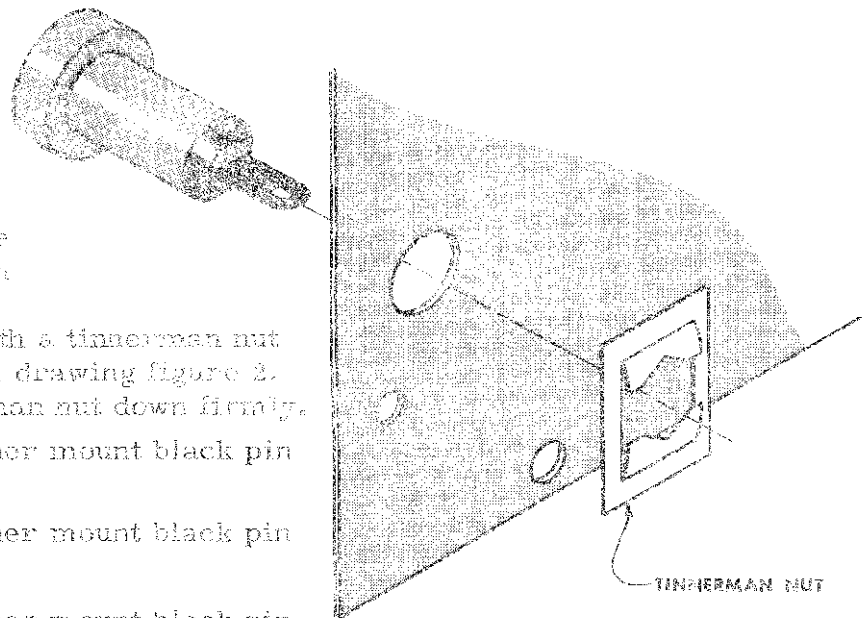
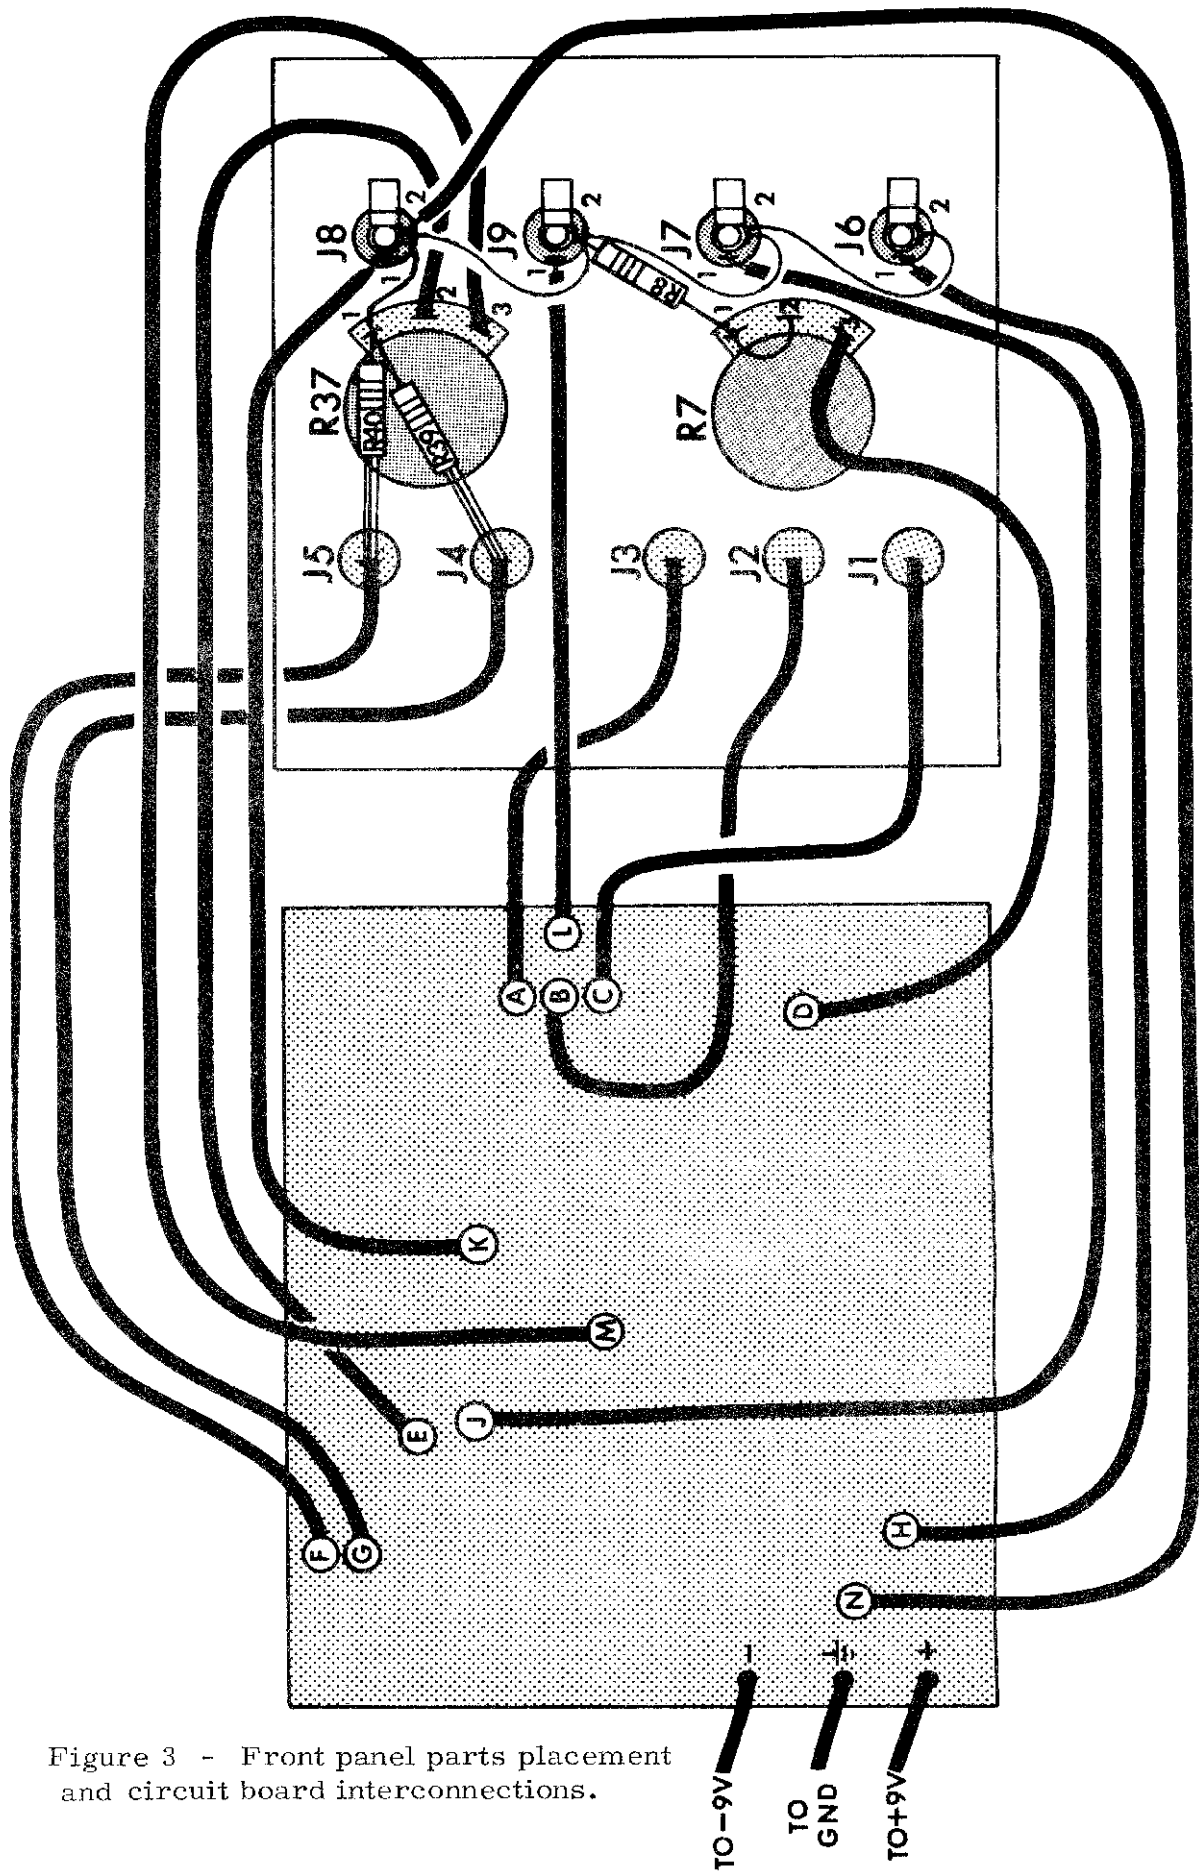

Figure 2
Figure 3 - Front panel parts placement and circuit board interconnections.
- ( ) Place a black pin jack J1 in the hole provided as shown in figure 3 and fasten in place with a tinnerman nut as shown in detail drawing figure 2. Press the tinnerman nut down firmly.
- ( ) Mount the open circuit phone jack J6 on the front panel in the position shown in figure 3. Orient the jack as shown and fasten in place with the nut provided.
- ( ) Mount the 100K ohm potentiometer R7 in the location shown in figure 3. Use two 3/8 inch nuts provided, one behind the front panel as a spacer, and the second on the front side of the panel to secure the potentiometer. Adjust the rear nut so that none of the threaded shaft of the control is exposed when the front nut is tightened down. This will allow the control knob which will be mounted in a later step to seat as closely as possible to the front panel. Orient as illustrated in figure 3.